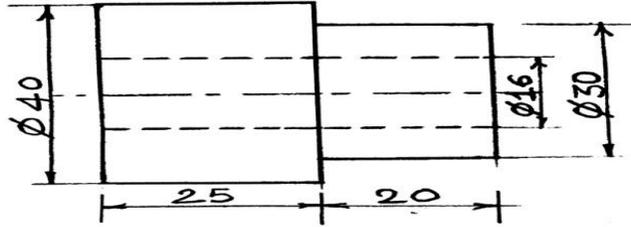

Fig. No. 1
c) Prepare operation sheet and sequence of operation for component shown in figure No.1. Assume suitable cutting parameters.